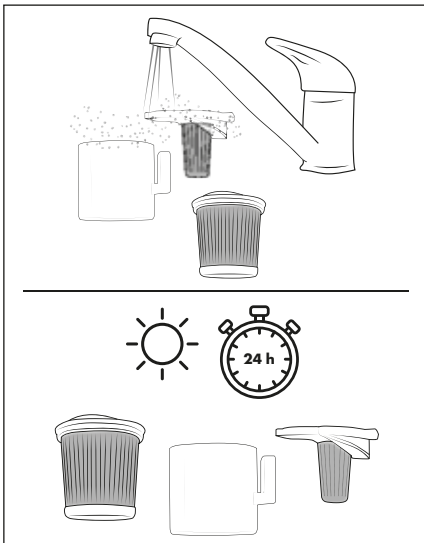

Fig. 18
5) Rinse the HEPA filter holder **5**, HEPA filter **4** and stainless steel filter **6** under cold or lukewarm water. Allow the HEPA filter holder **5**, HEPA filter **4** and stainless steel filter **6** to air dry completely before putting them back into the dust container **7** (see Fig. 18).